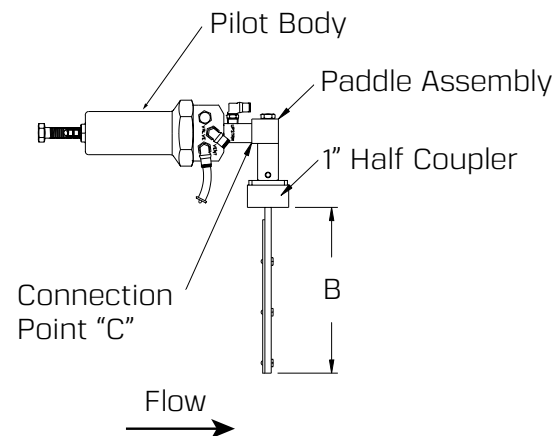

Figure 3. Paddle length measurement.
- b. With shorter half coupler installed on the paddle assembly, measure distance from end of paddle to bottom end of half coupler (dimension B, see Figure 3).
4. Unthread the pilot body from the paddle assembly at point "C" as indicated in Figure 3. Take care not to lose the rubber washer between the pilot body and paddle assembly.